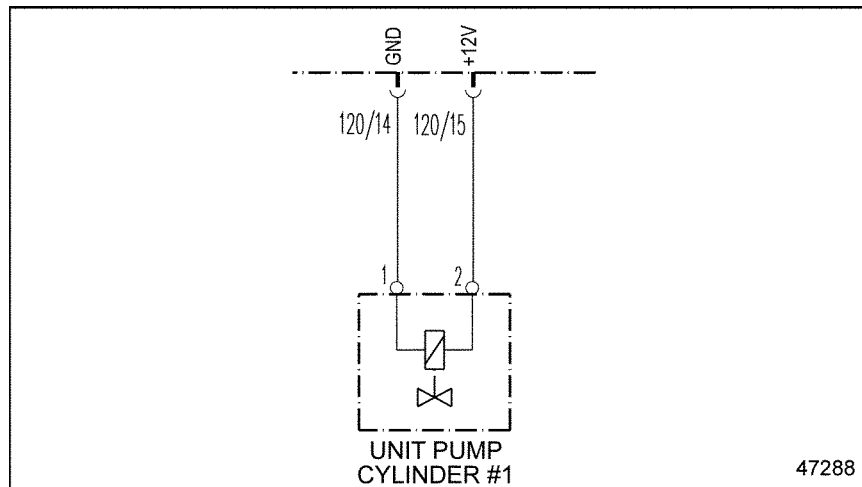

Figure 45-1 Electronic Unit Pump #1
2. Measure the voltage between pins 1 and 2 of Electronic Unit Pump #1. See Figure 45-1.